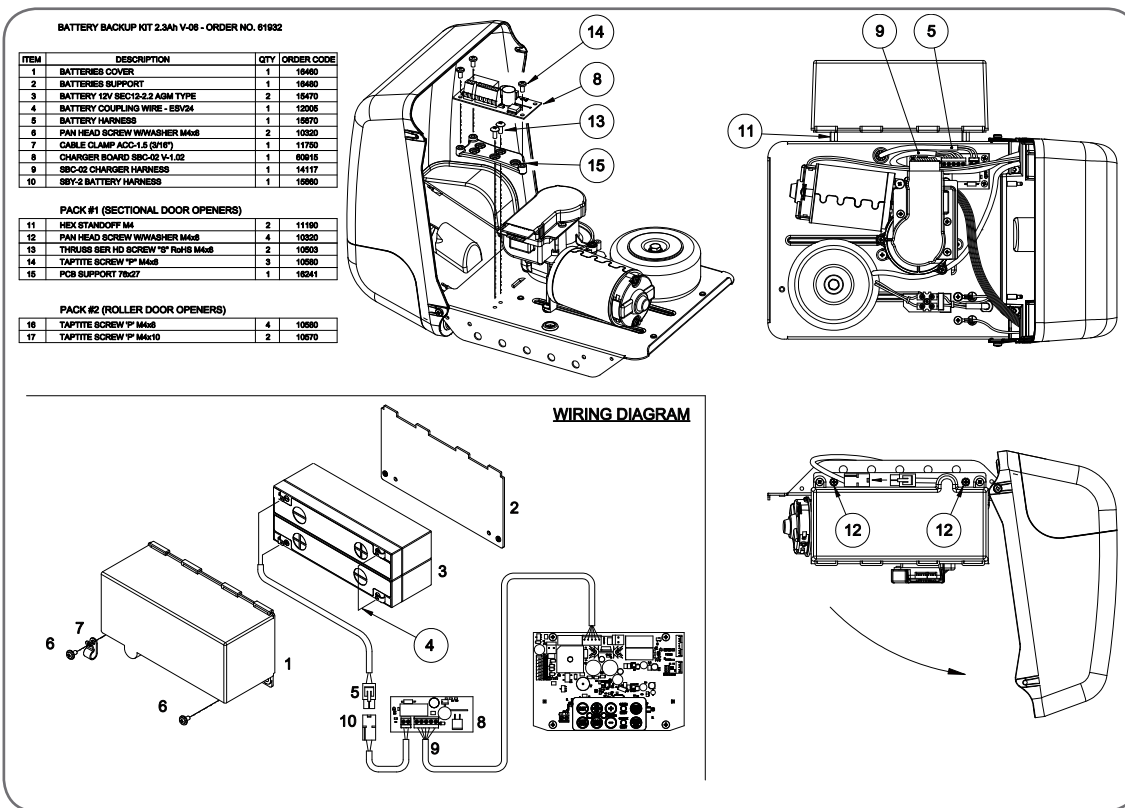

fig 44
- Remove screws and swing open the cover (Fig 44).
- Mount the PCB support with two screws item # 13. Secure the SBCO-2 Charger Board onto the PCB support with three (3) screws item #14.
- Mount Battery Backup and secure with item 11 and 12.
- Connect battery harnesses item 5 and 10 together (Fig 44).